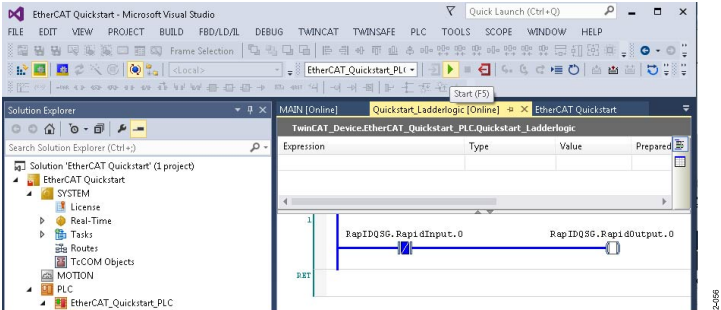
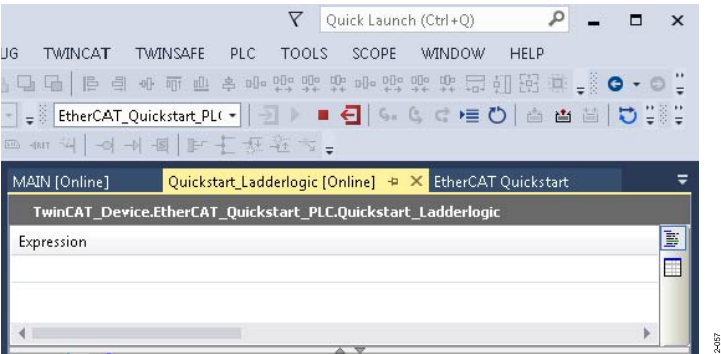

Figure 60. Start the PLC Program (Play Button)
Figure 61. Logged into the PLC Program
17. If the PLC program does not automatically start, select the green **Play** button arrow (see Figure 60) to start the PLC program. A screen similar to Figure 61 then appears.
18. The highlighted red icon, shown in Figure 61, indicates that the user is logged into the PLC and that the PLC example application is running.